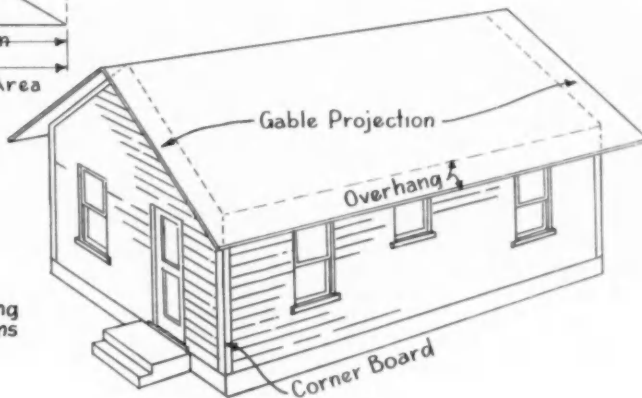

FIG. 4
**CORNER BOARDS:** Corner boards are pieces of finish stock sometimes required on exterior corners of a house finished with siding, as shown in figure 4. They provide certain architectural effects and also eliminate the necessity of making mitered joints on the siding. The size will be given on the blueprint or in the specifications. One piece should always be 1" wider than the other. The wide one is then lapped over the narrow one, so that both appear to be of the same width. The kind of lumber is usually redwood or similar weather-resisting material.
**OPEN CORNICE:** The open cornice is divided into two parts (see fig. 4).